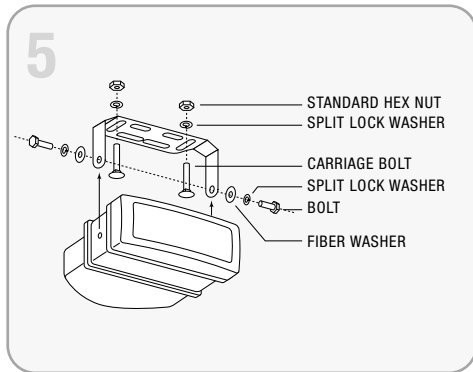

FIGURE 5
- Be sure to install the washers in the correct order (FIGURE 5) to ensure the lights do not move after installation.